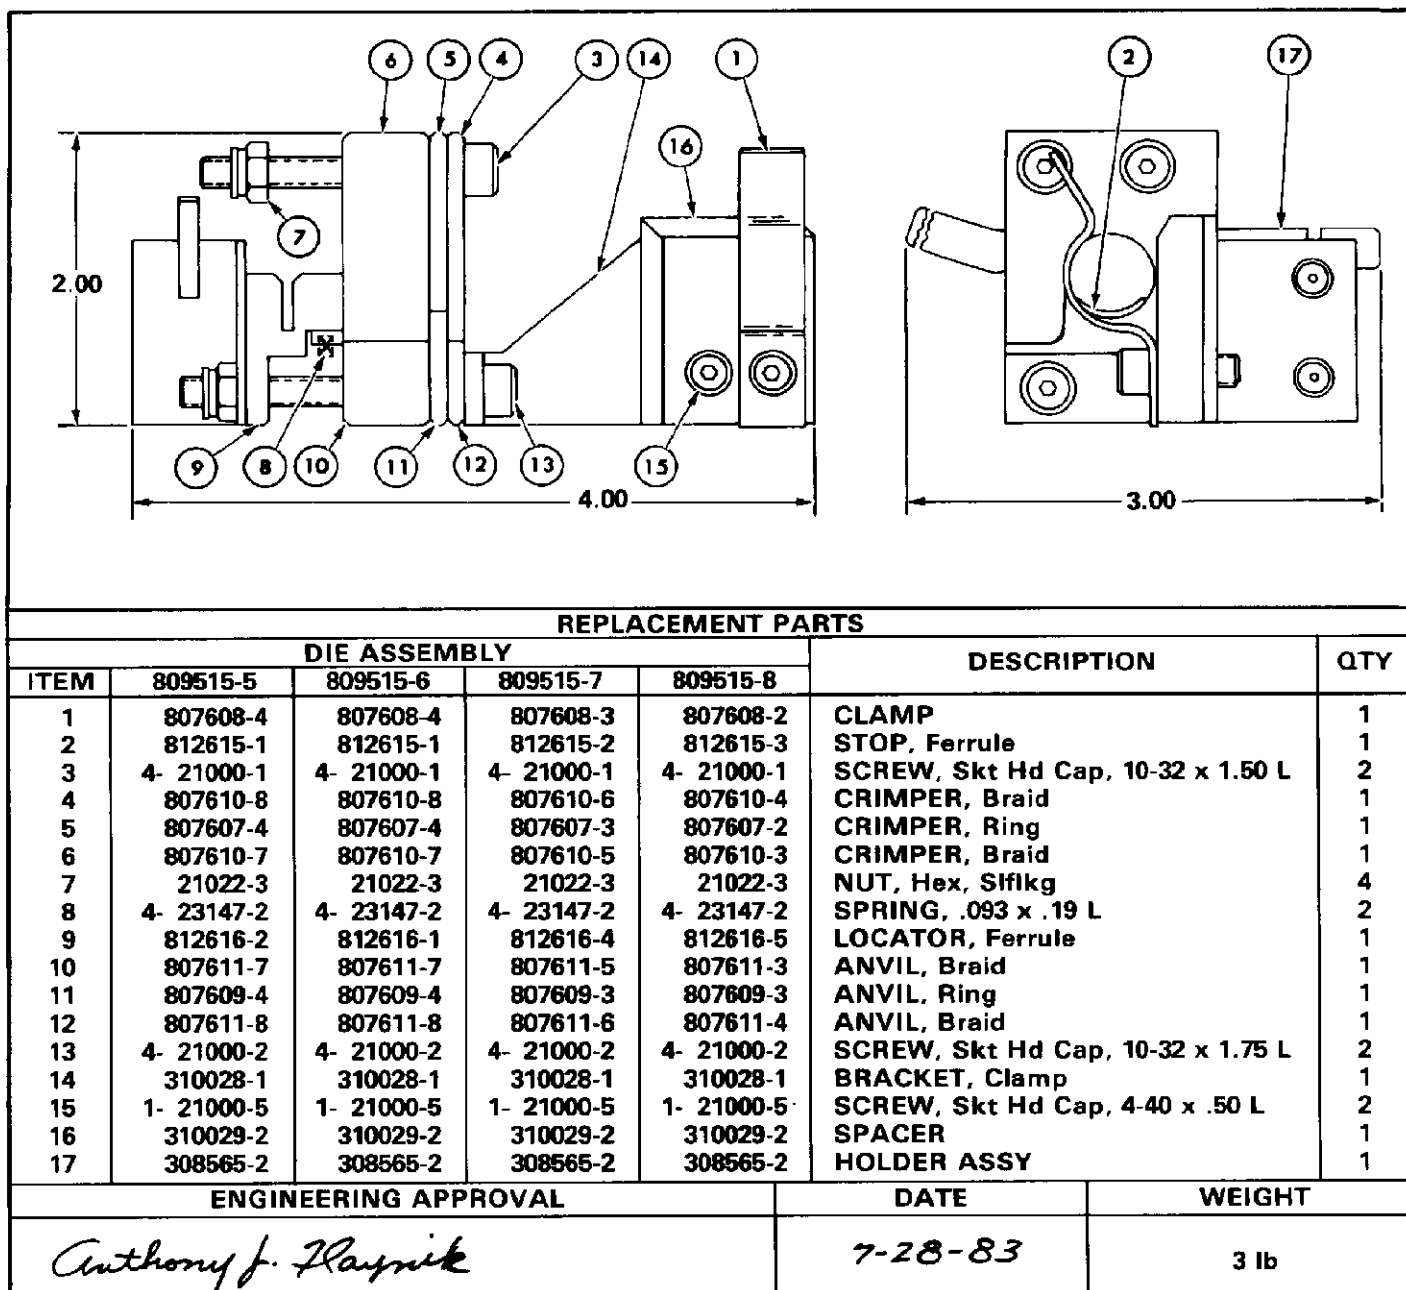

Fig. II-1
When removing the anvils from the machine, be careful not to lose the two springs. Refer to Figure II-1, Item 8.
Customer replaceable parts are listed in Figure II-1. A complete inventory should be stocked and controlled to prevent lost time when replacement of parts is necessary.
2. Make sure all die holding screws and die components are in place. Refer to the parts listed in Figure II-1 if replacements are necessary.
Parts other than those specified in Figure II-1 must be replaced by AMP to ensure certification of the dies. When repair is necessary, return the dies with a written description of the problem to: